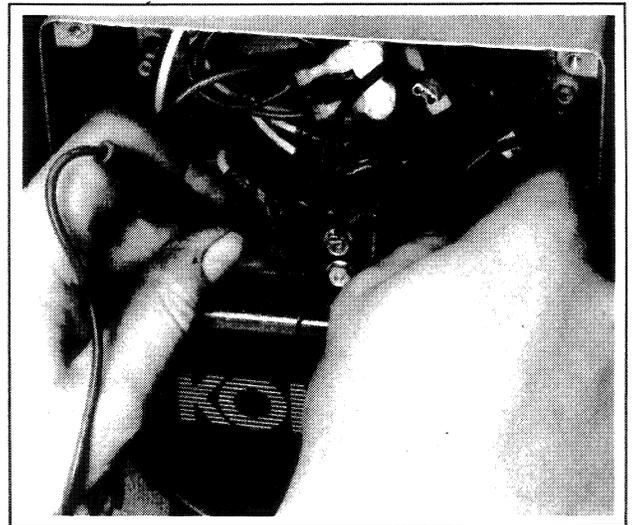

Figure 2-3. Flashing Field
3. Using a 9-volt transistor, 6-volt lantern or a 12-volt automotive battery, place the positive (+) lead on the outside slip ring and the negative (-) lead on the slip ring nearest the rotor core, for approximately 2 seconds. Figure 2-3.